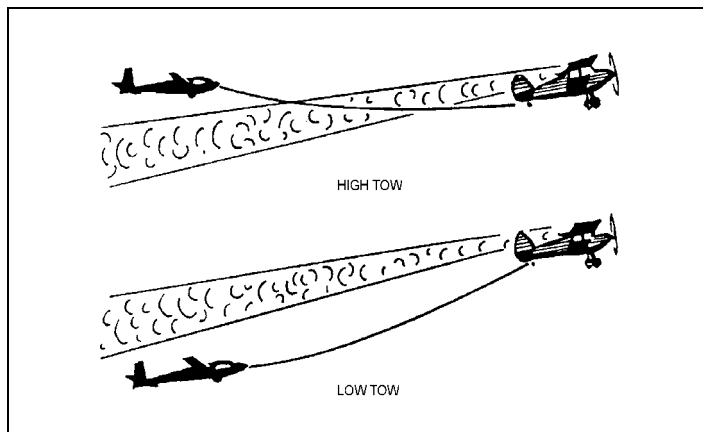

Figure 2-4-4 Tow Positions
8. **Tow Positions Use.** The high tow (or normal position) shall be flown during routine air tow launches, with the low tow position reserved for use during training missions and when descending on tow either to change altitude, to recover a glider under tow, or during cross-country flights. See Figure 2-4-4 for an illustration of the tow positions, and refer to paragraph 12 regarding descent procedures for an explanation on the utility of the low tow position.